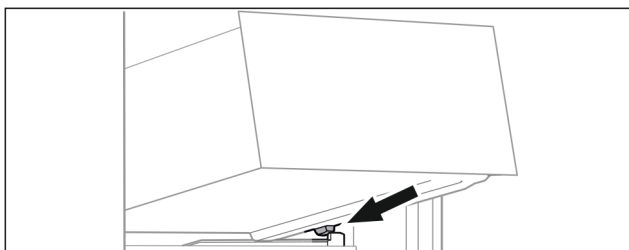

Fig. 80
- Place drawer at an angle behind the stoppers on the moulded rib. (see Fig. 80)